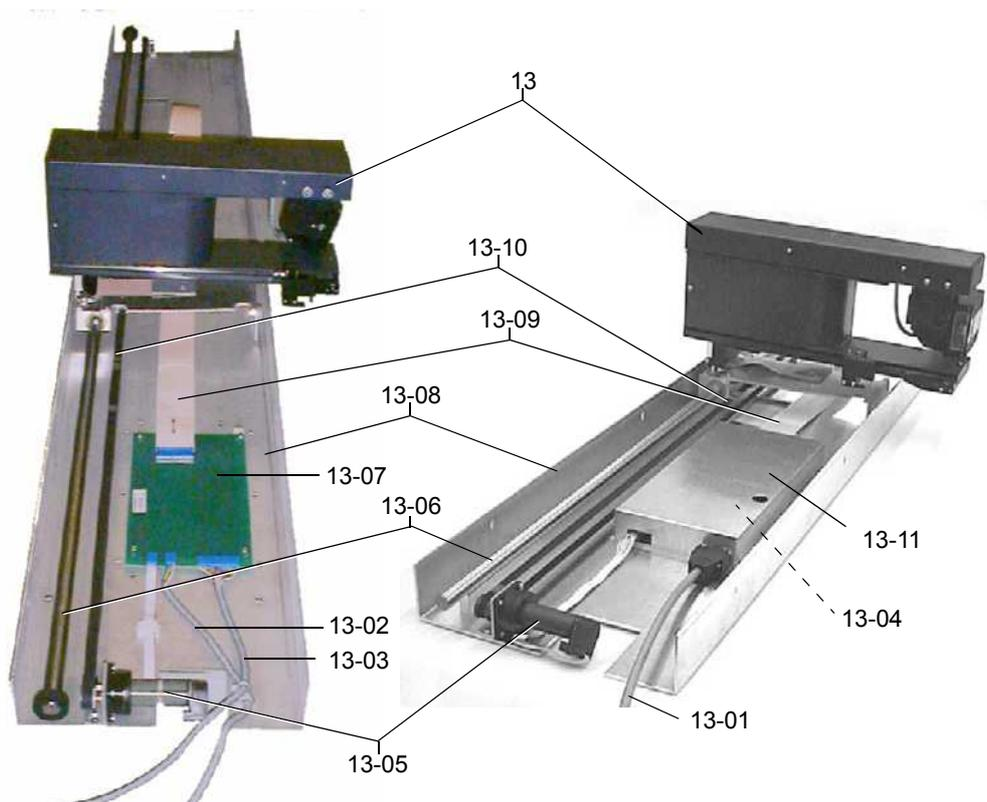

Figure 6-149 PosID 2 assembly: new version (left) and older version (right)
- 2 Disconnect the X-motor cable from the PosAda board (13-07) for the new version or PosID 2 CU board (13-04) for the older version (see Figure 6-149, 'PosID 2 assembly: new version \(left\) and older version \(right\)').
- 3 Refer to Figure 6-149, 'PosID 2 assembly: new version \(left\) and older version \(right\)':